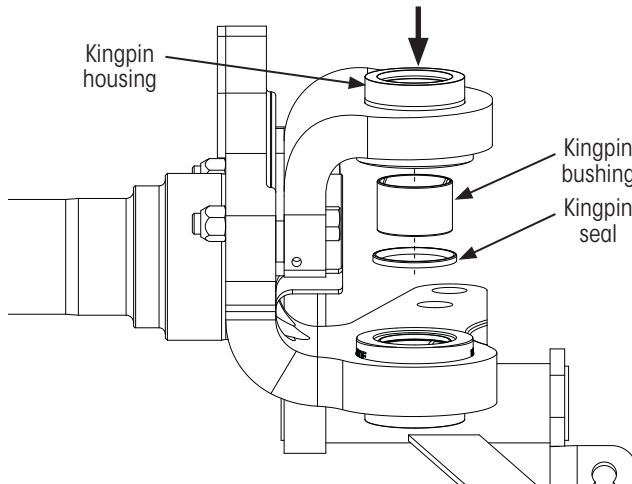

Figure 25: Removing kingpin bushing and seal
2. **Press** bushing and seal (Figure 25) out of each kingpin housing by forcing it inward to the knuckle.